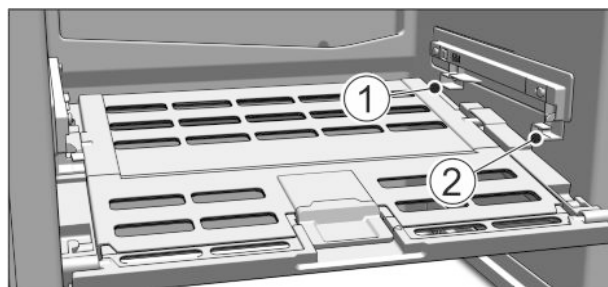

Fig. 16
- ▶ Replacing the Fruit & Vegetable safe cover: Guide the ridges on the cover into the rear brackets *Fig. 16 (1)* and click it into the front bracket *Fig. 16 (2)*.